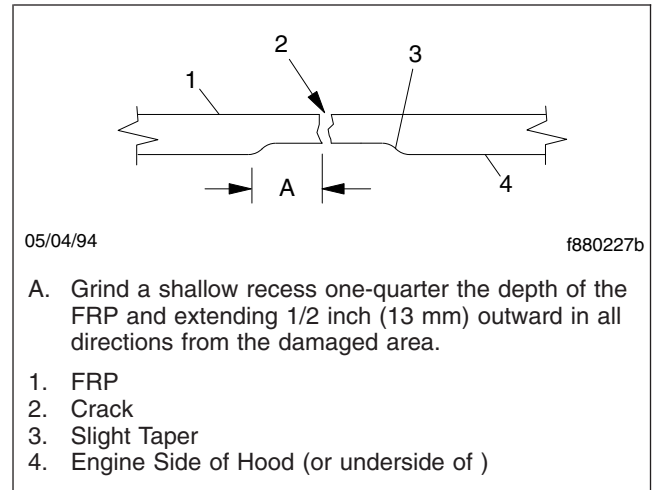

Fig. 4, Recessed Area (cross-sectional view)
5. On the engine side of the hood (or underside of the), use a router bit (on a grinder or a drill) to grind away a shallow recess one-quarter the depth of the laminate and extending 1/2 inch (13 mm) outward from all sides of the damage. Taper the outside edge of the ground area. See Fig. 4.